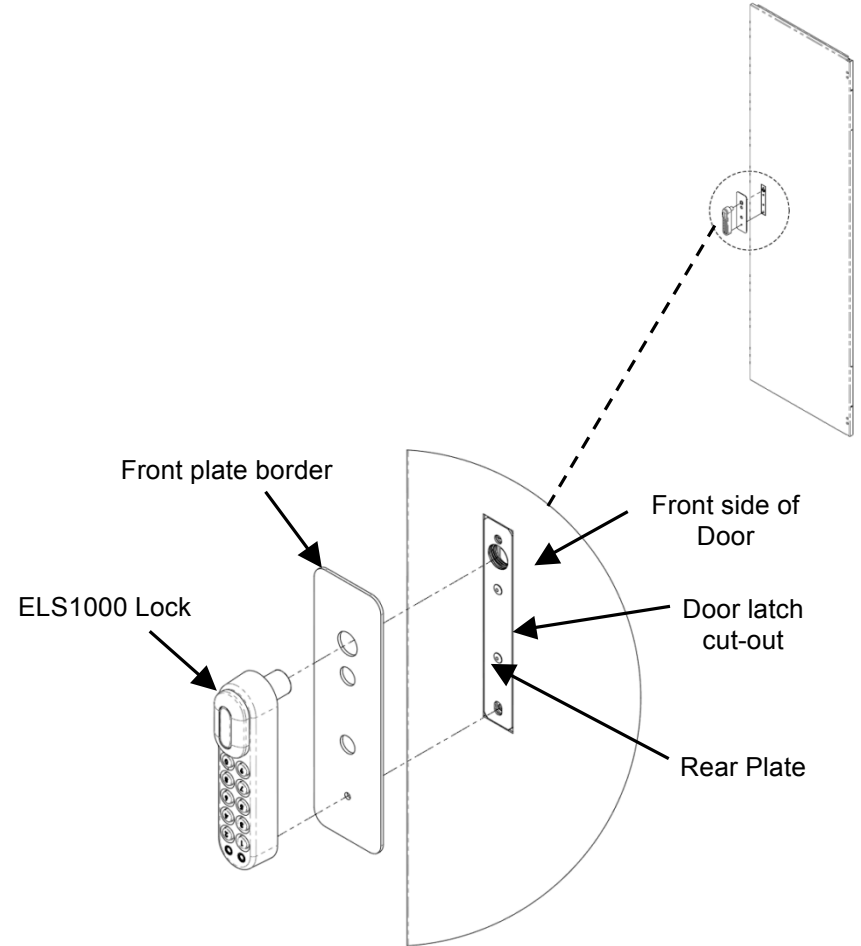

Fig. 3
2. Place the ELS1000 lock along with Front plate border on the rear door with the lock spindle orientation up and Rear plate from other side of door.(Fig.3)